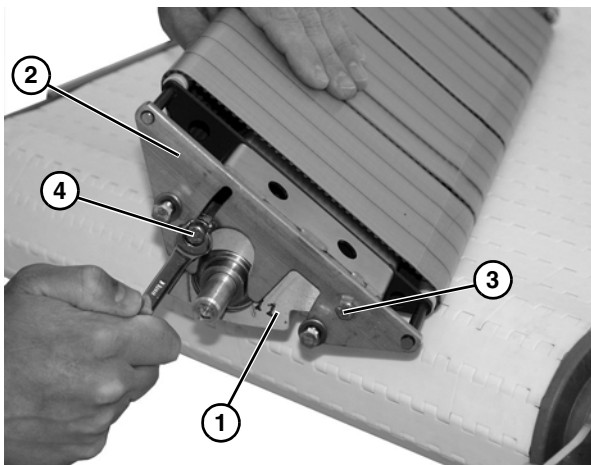

Figure 28
7. Lower inner power transfer bracket (**Figure 28, item 1**) from outer bracket (**Figure 28, item 2**), until belts are tight.
8. Tighten screw (**Figure 28, item 3**), and install and tighten screw (**Figure 28, item 4**).